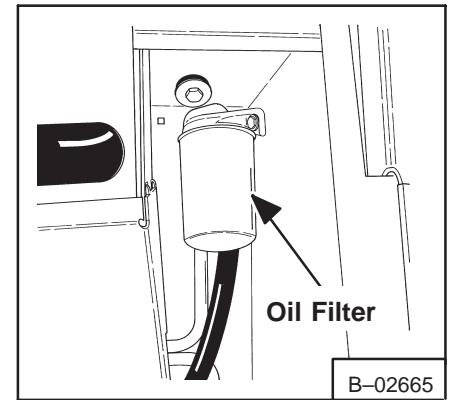

Fig. 1-31 Hydraulic Oil Filter
1. Remove hydraulic filter (Fig. 1-31).